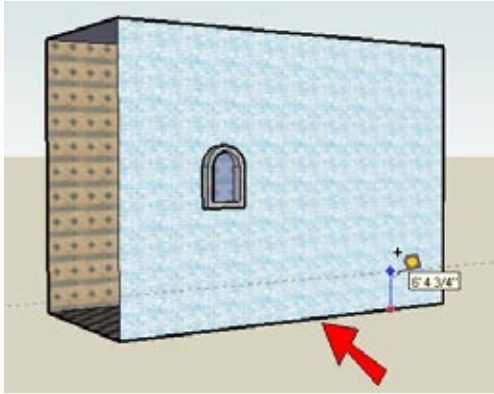

Figure 1-20
2. In addition to measuring, the Tape Measure tool can be used for creating construction lines. Activate Tape Measure. You should see a + sign attached to your cursor, but if not, press the Ctrl/Option key (otherwise, you will only be taking a measurement). Click anywhere on the lower edge of the wall (don't click on an endpoint), and move the cursor straight up, creating an offset construction line as shown in Figure 1-20. The offset distance appears next to the cursor.